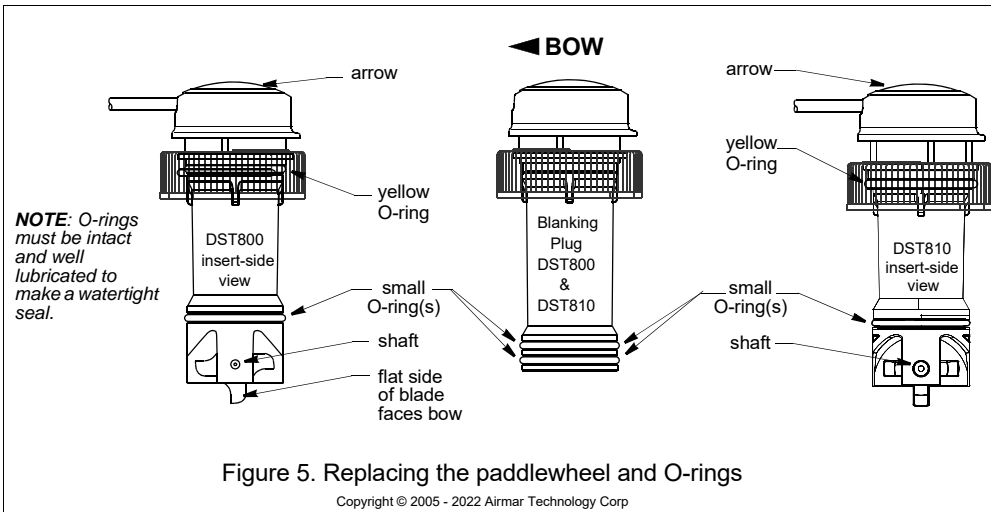

Figure 5. Replacing the paddlewheel and O-rings
5. *All the O-rings must be intact and well lubricated to make a watertight seal.* After the marine sealant cures, inspect the O-rings on the insert (replace if necessary) and lubricate them with the silicone lubricant supplied (Figure 5). Be sure the **YELLOW** O-ring is in place near the top. Also lubricate the bore of the housing above the valve.
1. *All the O-rings must be intact and well lubricated to make a watertight seal.* On the blanking plug, inspect the O-rings (replace if necessary) and lubricate them with the silicone lubricant supplied or petroleum jelly (Figure 5).
1. To remove the old paddlewheel shaft, grasp the end with small diagonal wire cutters and pull (Figure 5).
2. **DST800**—Place the new paddlewheel in the cavity with the flat side of the blade facing the same direction as the arrow on the top of the insert (Figure 5).